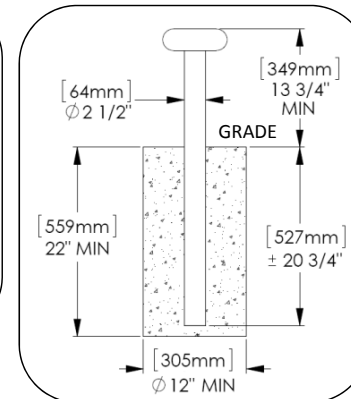

Fig. 2 – Embedded
4. Excavate area for each vertical support as shown in Fig. 2.